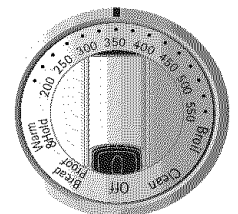

Figure 5
3. Turn the temperature control knob to 350 (Figure 5). The temperature will appear briefly in the oven control display. The display will beep indicating that the temperature is set. Then the temperature will disappear from the display.